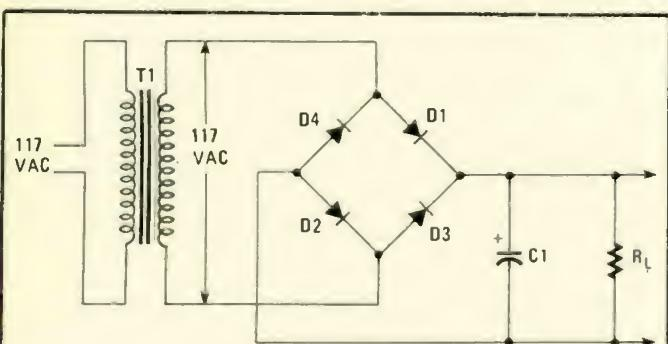

FIG. 5—CAPACITOR C1 provides ripple voltage filtering so that R_L always has a DC voltage across it. Refer to text for discussion on PIV rating of C1.
The pulsating DC produced by a bridge rectifier is not usable in most electronic circuits. To produce nearly pure DC from the rectifier output a filter must be used. The simplest form of filter is a single capacitor in parallel across the load resistor. See Fig. 5. The operation of filters will be discussed shortly, but included here, because the filter capacitor affects rectifier ratings which is our real topic. For now, let's be content with the fact that the filter capacitor (C_1) is charged to the peak of the AC waveform. That means that the bridge rectifier's output voltage under no load is $1.414 \times V_{rms}$. It comes to 165.4-volts DC from a line isolation transformer T1 delivering 117-volts AC.
Some designers fail to recognize the true reverse-bias voltage in a filtered power supply. On one half-cycle, the diode will be forward-biased and current flows. On that half-cycle, the filter capacitor (C1 in Fig. 5) charges to peak positive voltage (i.e. $1.414 \times \text{rms}$). That voltage charge remains on C1. On the next half-cycle, the AC voltage reverse-biases the rectifier to the peak negative voltage (again, $1.414 \times \text{rms}$). That potential is added to the capacitor voltage to make the actual PIV twice normal peak voltage (i.e. $2 \times 1.414 \text{ rms} = 2.83 \text{ rms}$; or approximately 320.8 PIV). It would be wise to use diodes in the bridge circuit rated at a standard value of 400 PIV.
The simplest form of filter is a single capacitor connected in parallel with the rectifier output and the load. Such a filter is called a *brute-force* filter. An example is shown in Fig. 5.
Normally, we will have a ripple-factor percentage in mind as a design goal, and the load resistance is set by other requirements. We will want to rearrange Eqs. (6) and (7) to find the minimum value of capacitance (C1 in Fig. 5) required to do the job. Also, we will want our result in microfarads (μF), not Farads. To accomplish those goals we can rewrite Eqs. (6) and (7) into a final form:
Equations (8) and (9) are valid for power supplies using brute force filtering as diagrammed in Fig. 5 and operating from 60 Hz AC power lines. On 50-Hz power systems, increase the value of C1 by approximately 20 percent.
The filtering action has the effect of raising the average output voltage. The voltage produced by Fig. 5 will be as follows: